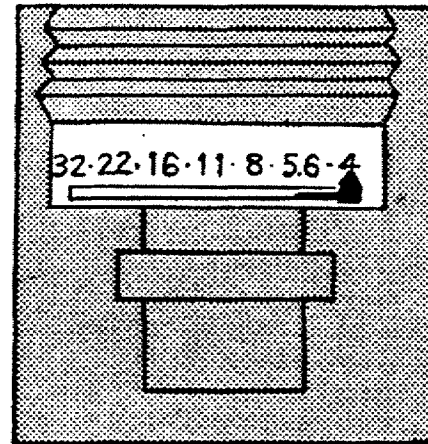

Figure 1-7. Aperture Selector.
d. Aperture Selector (fig 1-7) - controls the action of the lens diaphragm (opens or closes down, with right to left movement).